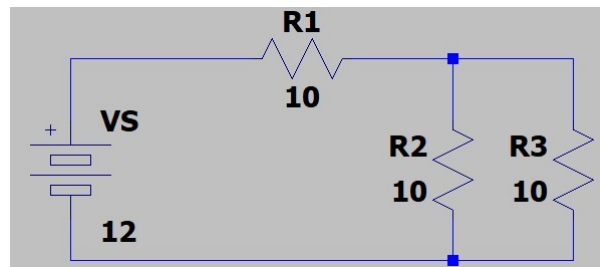

Figure 29: LTspice example of circuit with all components connected.
9. Connect all of the components in your circuit as shown in Figure 29.